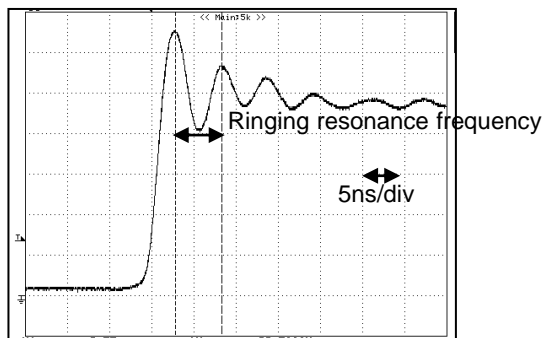

Figure 76. PWM Output waveform
1. Measure the ringing resonance frequency " $f_1$ " of PWM output waveform (when rising) by using low capacitance Probe (e.g. FET probe) at the OUT terminal. (Figure 76)